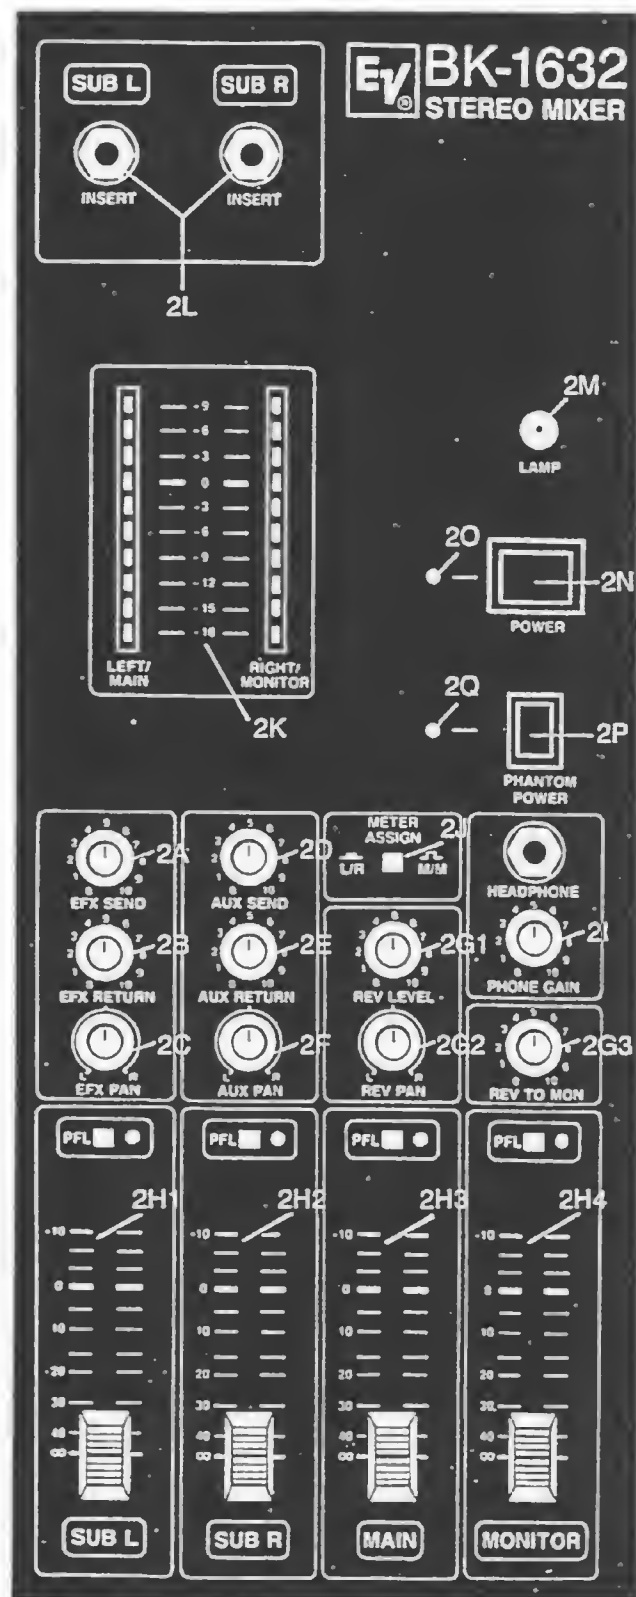

FIGURE 2 — Output Section Controls and Functions
**SECTION 2.0****2.0 OUTPUT SECTION CONTROLS (Figure 2)****2A. EFX SEND**